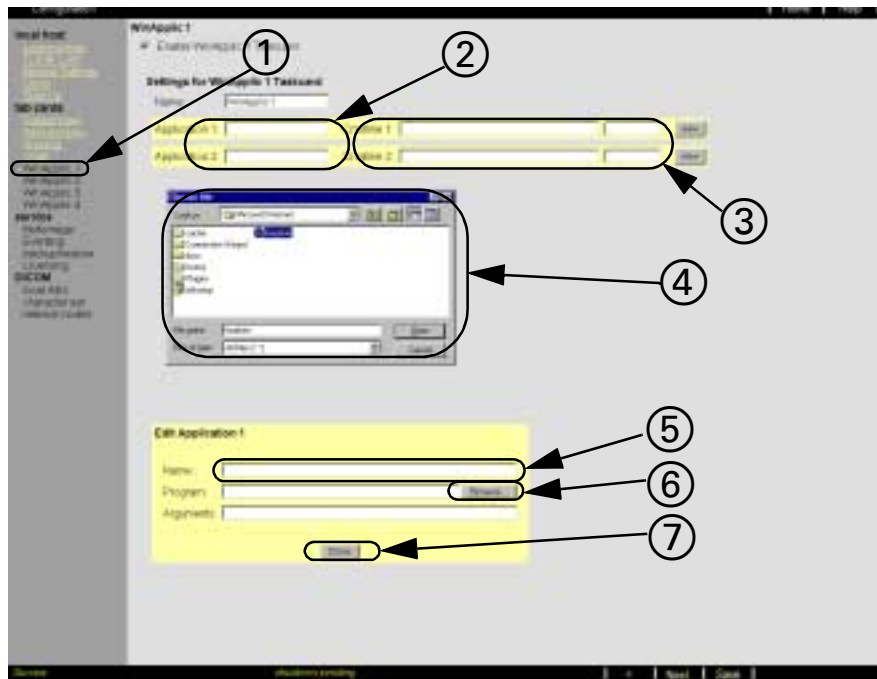

Figure 13-58 WinApplic Taskcard Setting
1. Click on *WinApplic 1* (① in Figure 13-58), then click on *Next* at bottom of screen.
4. Examine Application 1 box (② in Figure 13-58), and do either a or b, as appropriate.
8. Type Application Name in Application box (② in Figure 13-58).
9. Type path that corresponds to Program's executable file (e.g. D:\Program Files\Microsoft Office\Office\WINWORD.EXE) in "Cmdline1:" box (③ in Figure 13-58), and then continue to step 10.
Note: If Program's executable file path is not known, click on *New* button next to Cmdline x: box, then click *Browse* button in "Edit Application" window (⑥ in Figure 13-58), and locate file using the "Choose file" window (④ in Figure 13-58). Type Application Name in Name box (⑤ in Figure 13-58), and click on *Done* (⑦ in Figure 13-58).
13. Complete Section 13.10.4 and 13.10.5. In step 5 of 13.10.5 delete path that corresponds to Program’s executable file (e.g. D:\Program Files\Microsoft Office\Office\WINWORD.EXE) in “Cmdline1:” box (see example ③ in Figure 13-58 on page 63).